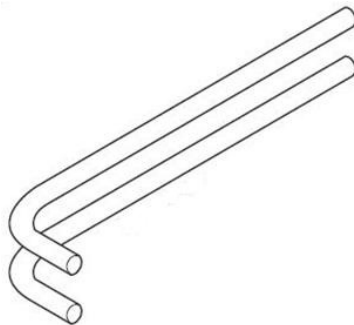

Figure 6
- Alignment Pins (part number 7100) used for locking the c-arm into positioning for checking alignment. (Figure 6)